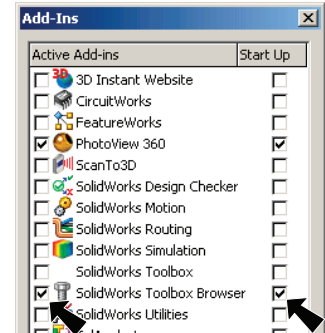

Fig. 1
Step 2. Check **SolidWorks Toolbox Browser** to place a check in the check box, then click OK, **Fig. 1**.